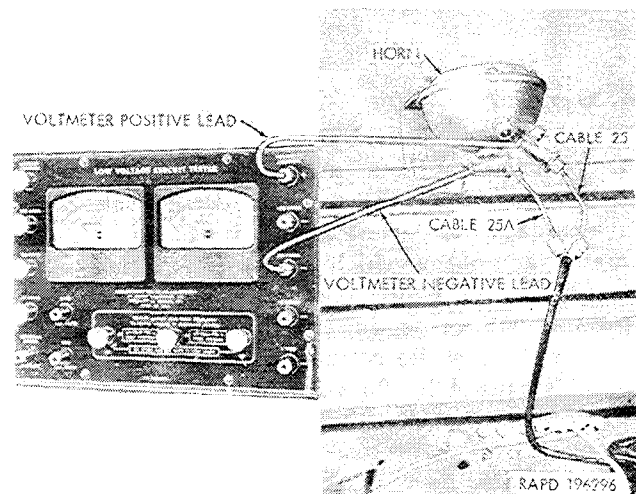

Figure 2-71. Checking for current at horn connections.
(2) *Horn faulty.* Check to determine whether current reaches the horn cable connectors, using the low voltage circuit tester (fig. 2-71).